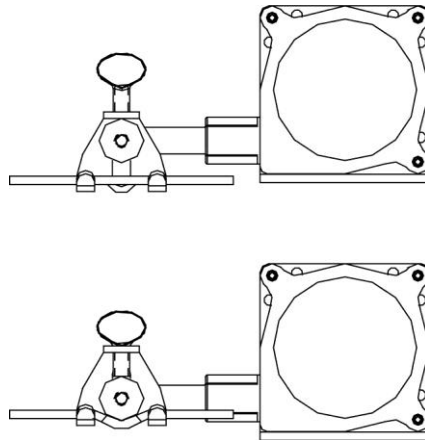

Figure 7: Attaching Cable Clamp to the Sash Counter-Weight Cable
4. Attach the Vertical Sash Sensor Cable Clamp to the sash counter-weight cable in the previously taped or marked location. Route the sash counter-weight cable through the Cable Clamp Hook, and fully tighten the Thumb Screw to secure the sash counter-weight cable to the Cable Clamp (Figure 7).